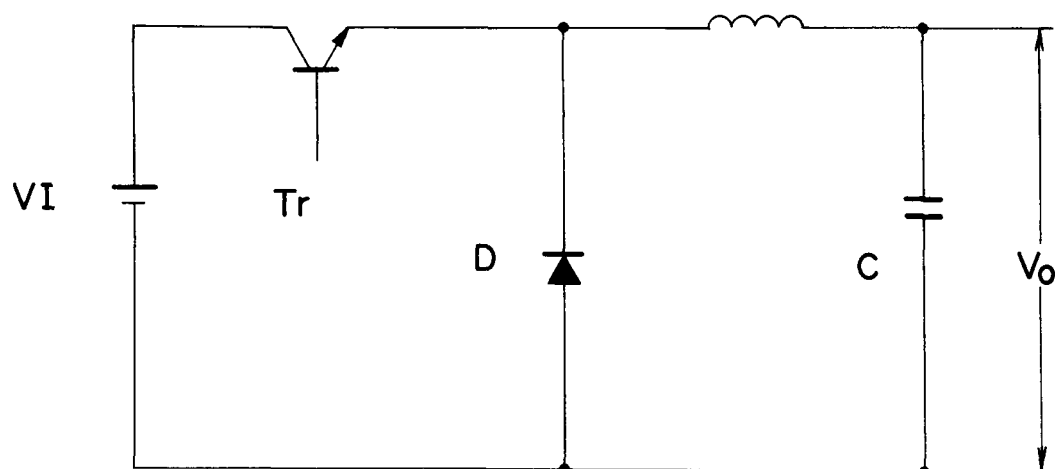

Figure 4-46. 5V equivalent circuit
The Power Supply circuit of 5V output consists of a step-down switching regulator. As shown in Figure 4-46, the circuit has no transformer; the input and output terminals are direct currentwise common. Therefore it is free from the trouble caused by a linkage-inductance and provides a miniaturized and effective Power Supply.
Block ② TR511 is the switching transistor shown as Tr in Figure 4-46.
Block ④ In case TR511 is locked ON for some reason, SCR500 turns on and prevents the input voltage V_I (Figure 4-46) from directly appearing at the output guiding it to the ground. Thus it protects the connected systems from failure.